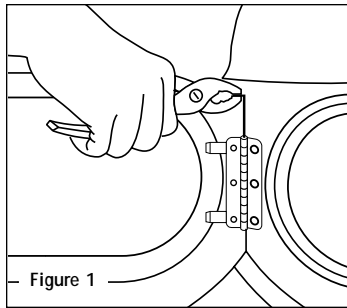

Figure 1
1. Remove the old window frame by using pliers to pull out the hinge pin (figure 1).